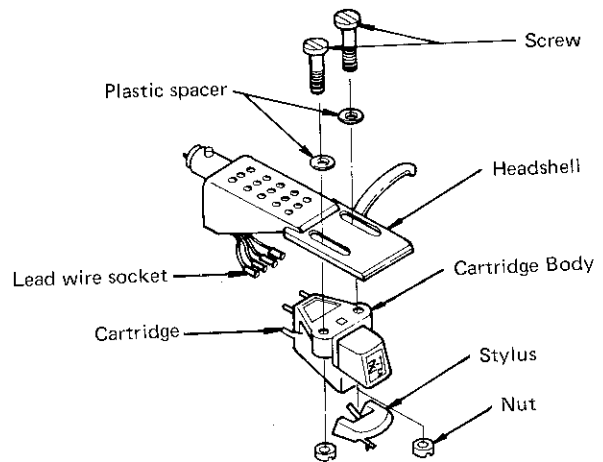

Fig. 9
- Mounting cartridge (Fig. 9)**